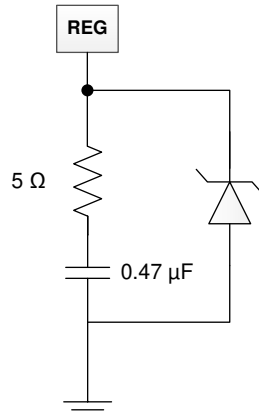

**Figure 8-2. 3-Series BQ2961 and BQ2962 Schematic**
1. If the VSS pin cannot be connected first, it is required to add a resistor of a minimum of 5 Ω to a maximum of 10 Ω (a 5-Ω resistor is used in the reference schematic, Figure 8-2) in series with the REG capacitor. When VSS is floating, the REG capacitor always charges up to the VDD voltage. When VSS is finally connected, the REG capacitor will be discharged. Adding a small resistor in series reduces the current strength and avoids any potential damage to the REG pin. The 5-Ω resistor can be placed in series with the REG connect circuit (as shown in Figure 8-2) or in series of the REG capacitor (as shown in Figure 8-3). Placing the resistor in series with the REG circuit results in a small drop of  $V_{REG}$  (for example: max loading of  $I_{REG}$  mA with a 5-Ω resistor will drop 5 mV on  $V_{REG}$ ), but such a connection can protect against rush current discharge from a REG capacitor or an external filter capacitor connected to the REG pin. Placing the resistor in series with the REG capacitor is an alternative to avoiding an additional drop in  $V_{REG}$  if the filter capacitor used by the external circuit is much smaller than the REG capacitor.
3. The cell should be connected to the lower  $V_n$  pin; the unused  $V_n$  pin should be shorted to the ( $V_{n-1}$ ) pin. See Figure 8-2 for details.